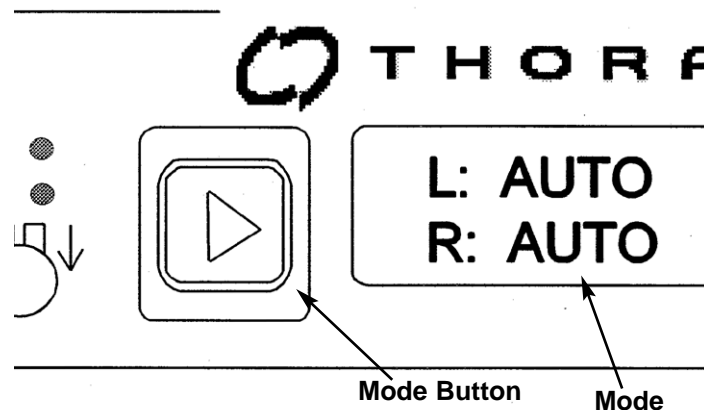

Figure 4.14 Mode Button on TLC-II Control Panel
- 4.4.11 Press the mode button to select the automatic rate mode for automatic control of VAD rate based on VAD filling. Verify that the words AUTO appear on the main TLC-II display for each VAD. Each time the mode button is pressed, the mode switches between auto and fixed rate modes of pumping (**Figure 4.14**).